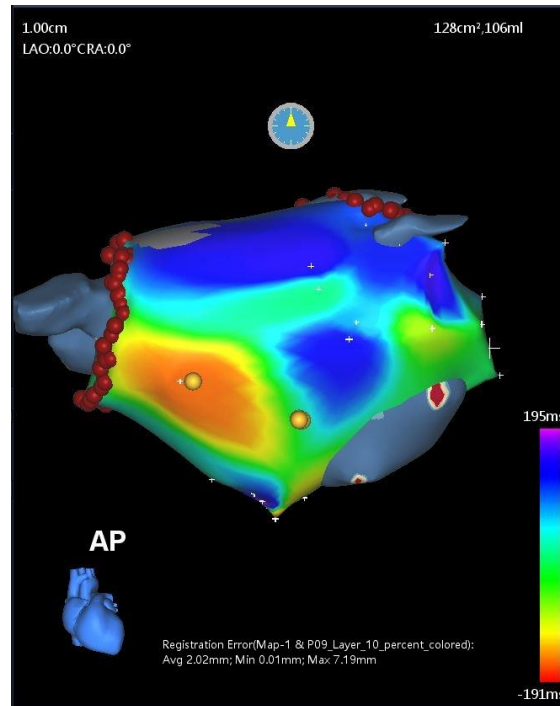

Figure 9-14 VTK Registration Error Display
- 5) Once registration is complete, the error of the current registration result is displayed in the map window, including the mean, minimum, and maximum deviation between the map point and the VTK image (Figure 9-14). Registration errors may serve as a reference for you to assess the quality of the registration results.